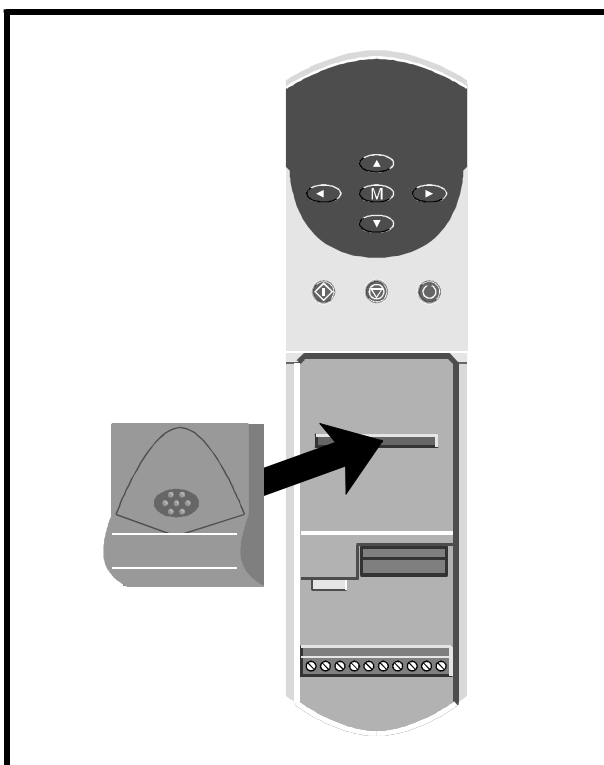

Figure 1 Installing the UD50 in the Unidrive
- 4 Position the multi-way connector on the rear of the UD50 over the connector in the Drive (see Figure 1), and press on the thumb pad to push the UD50 into place.